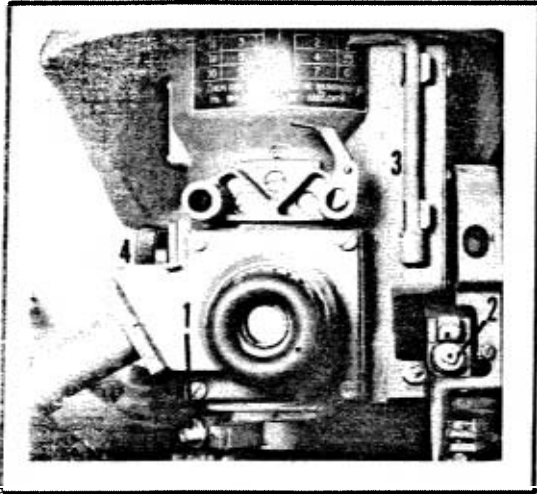

FIG. 3-87. TPN 1-41-11 PERISCOPE
(1) Wait until dark. Remove armor protective plate for the head of the TPN-1-41-11 on turret exterior.
(2) Attach IR power cable to the power connection on the periscope (Fig. 3-87).
(4) There should be a greenish hue field of view. Adjust for brightness with the intensity adjustment knob on the periscope's left side (Fig. 3-87). Turn on the L-2G searchlight and adjust periscope for clarity of vision.
(1) Select an object 700 meters from the tank. Place a flashlight at this location.
(2) Rotate the TSh2B-41U telescope range knob until range line is aligned with range scale zeros.
(3) Place telescope main aiming point on the selected object aiming point.
(4) Turn on TPN 1-41-11's IR power supply BT-6-26 (Fig. 3-98) and adjust for minimum brightness with the intensity knob on the periscope's left side (Fig. 3-87).
(5) If the arrow in the periscope reticle does not coincide with the object aiming point, adjust for azimuth by turning the azimuth boresight screw with the attached wrench (Fig. 3-87). Adjust for elevation by turning the elevation boresight screw (Fig. 3-87). Make adjustments until periscope aiming point (arrow) corresponds to object aiming point.